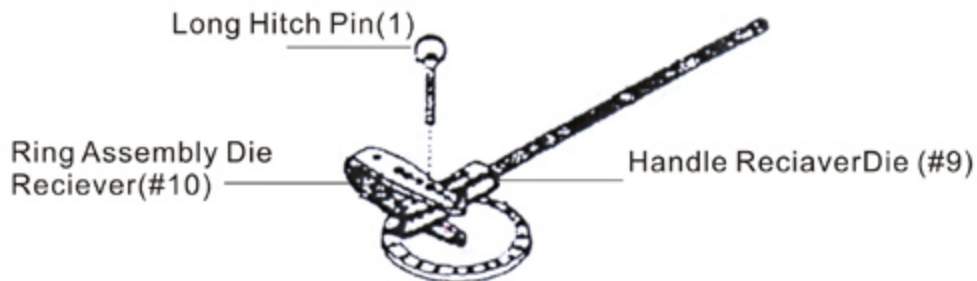

Figure2- Assembling Handle
- Step 5: Place the HANDLE DIE RECEIVER(#9) between the ASSEMBLY SPACER DIE RECEIVER and secure in place using the LONG HITCH PIN (#1) as shown in Figure 2.